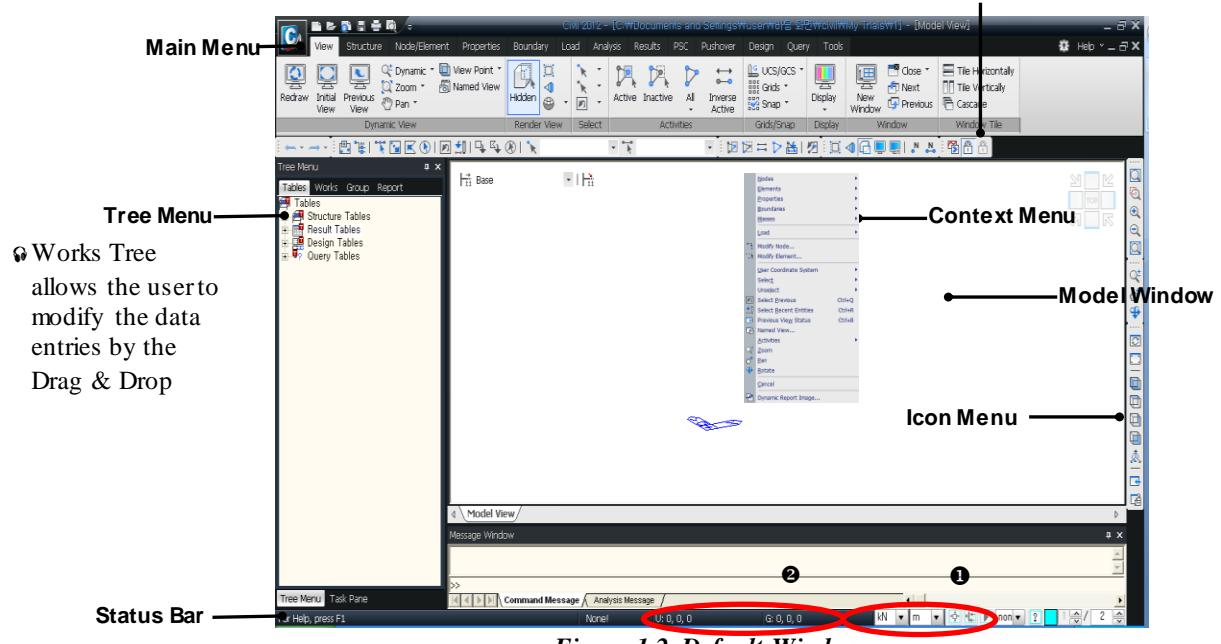

Figure 1.2 Default Window
The data input window and the unit display at the bottom of the screen (Status Bar – Fig. 1.2–❶) indicate the unit system in use and this reduces the possibility of errors. In this example, “ft” and “kip” units are used.
The coordinates of the nodes, grids and mouse cursor relative to GCS and UCS are displayed in the Status Bar (Fig.1.2–②).